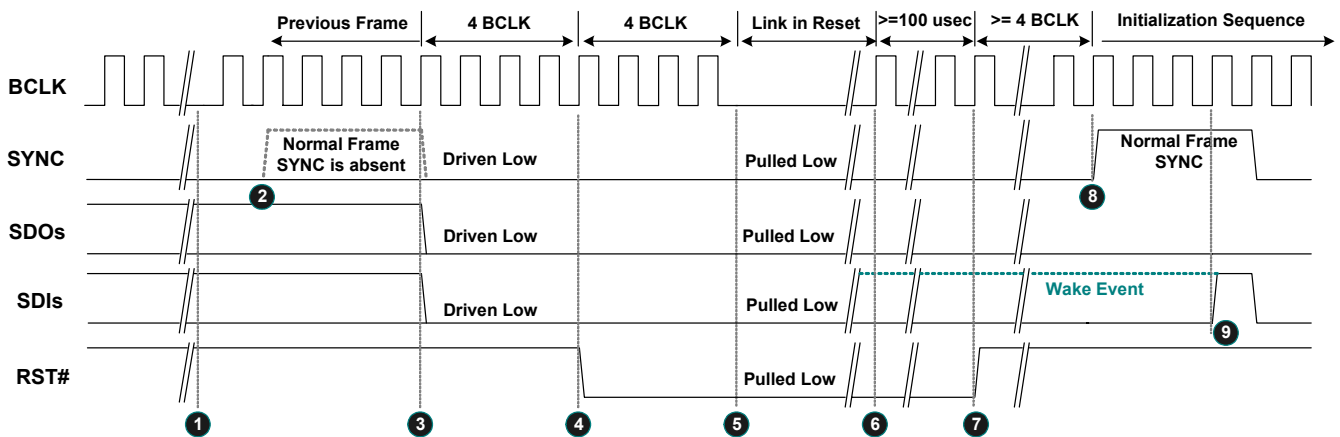

Figure 13. Link Reset Timing
3. Software initiates power management sequences. Figure 13, page 19, shows the ‘Link Reset’ timing including the ‘Enter’ sequence (❶~❺) and ‘Exit’ sequence (❻~❾)